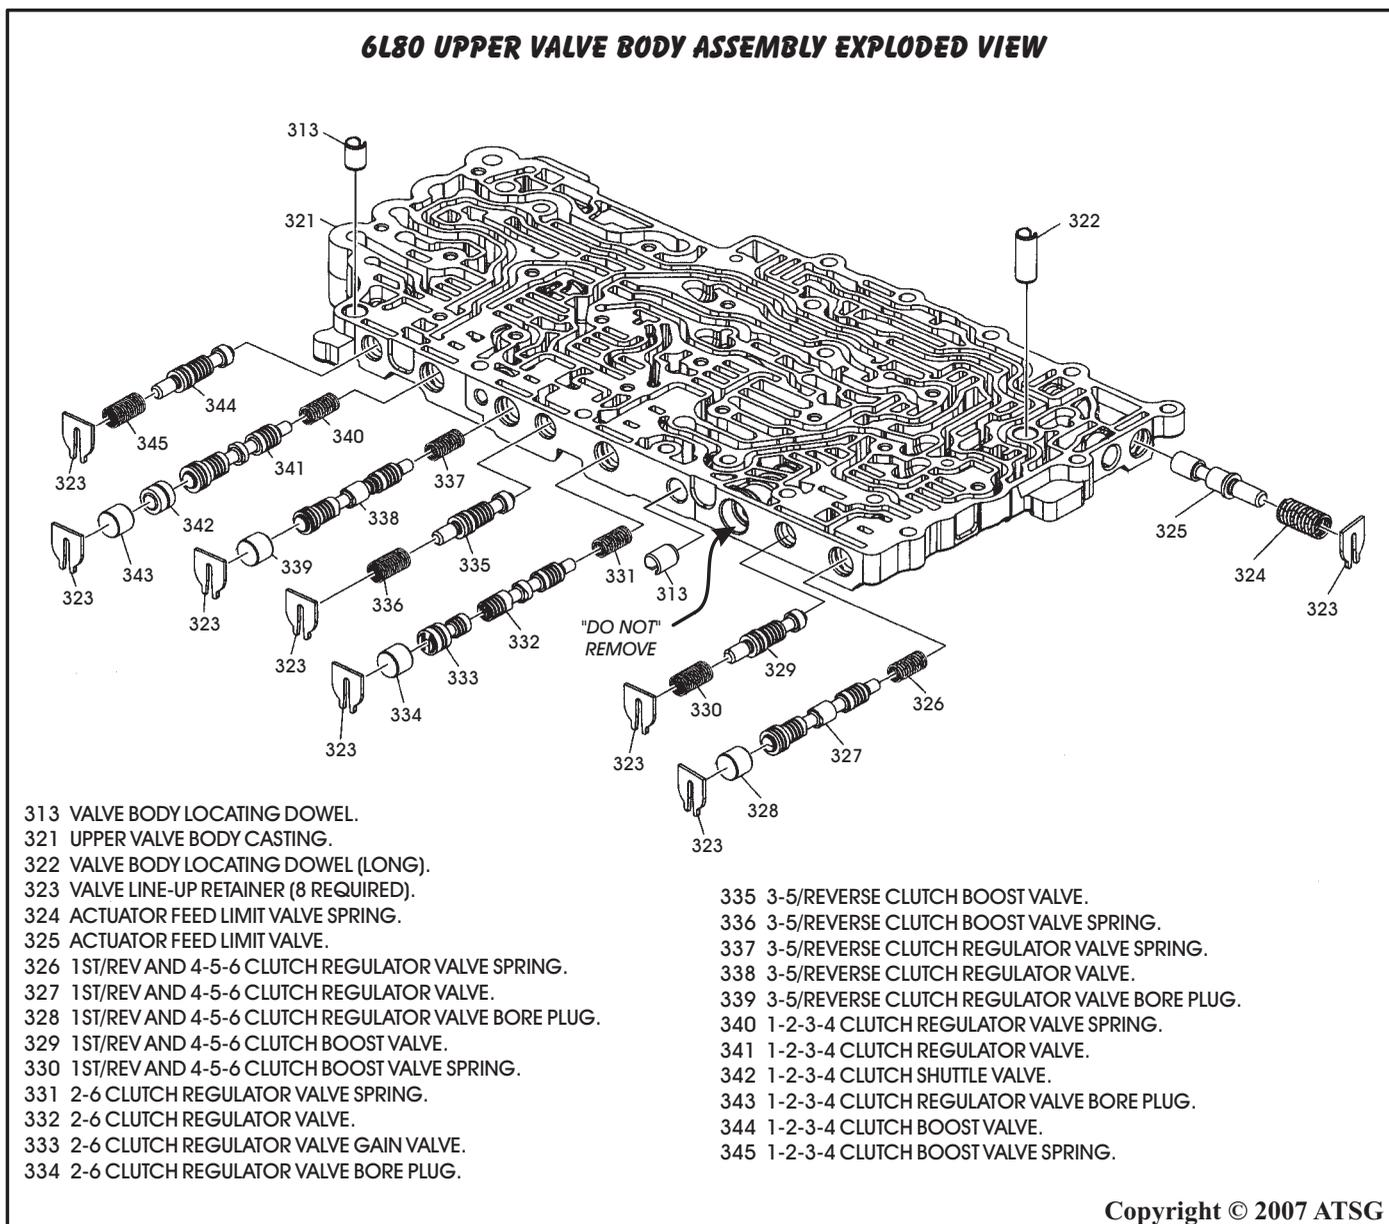

Figure 141
13. Disassemble the upper valve body assembly using Figure 141 as a guide.
**Special Note: "Do Not" remove the clutch piston backfill blow-off plug, spring, or ball. The bore plug is pressed in to a precise depth. Refer to Figure 141 for location in the upper valve body assembly.**
17. Install each valve train back into their bores **exactly**, as shown in Figure 141, lubricating them with Dexron VI® as they are installed.
19. Install the valve body locating dowels in the upper valve body, as shown in Figure 141.